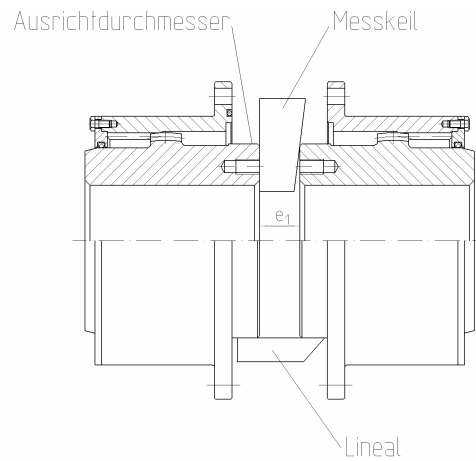

Fig. 5
**The O-ring (8) must be protected from heating up to a temperature > 90°C during installation!**
6. Push the machines or aggregates close together and align with each other to obtain distance  $e_1$  (see works standard) for coupling according to KWN 21006 and KWN 21007 (special design with intermediate shaft, distance L; Fig. 5)
Should no dial gauge be available, it is also possible to determine the displacement by dimension (Fig. 5). In case of greater lengths  $L$  the system-related error of the measuring device itself must also be taken into account.